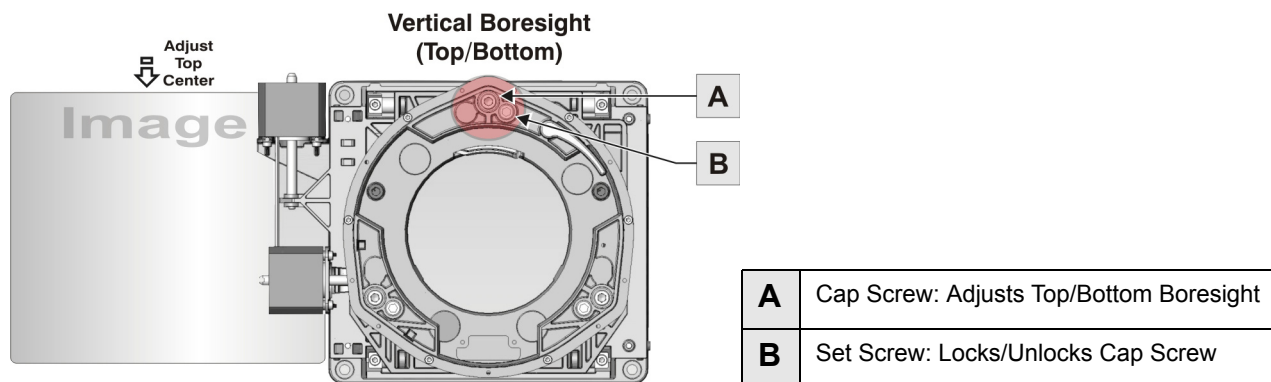

Figure 4-2 Top/Bottom Image Adjustment
4. Loosen the set screw with a 5mm hex key. (Figure 4-2/B).
5. Turn the vertical adjust cap screw 1/8 of a turn counter-clockwise with the 5mm hex key. (Figure 4-2/A).